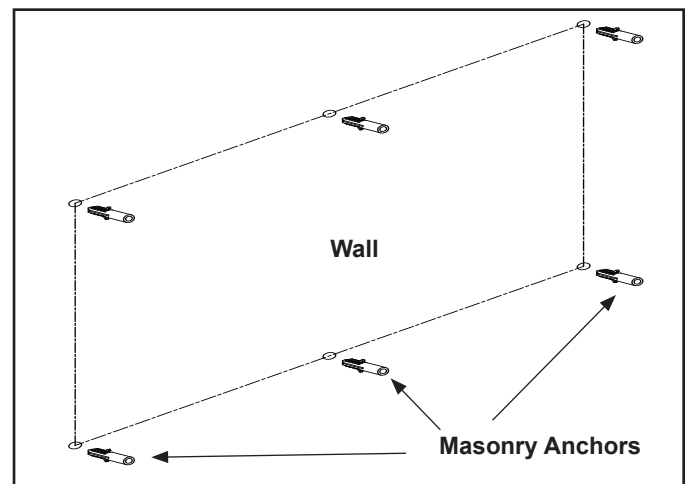

Figure 30. Masonry Anchor Placement
- In the marked locations, drill 5/16 in. diameter x 2 in. deep holes. See Figure 30.